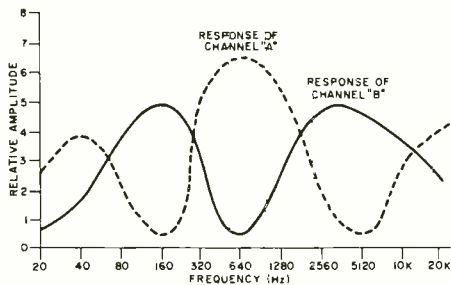

Fig. 2. Frequency response of the synthesis stereo circuit.
*Dual Dimension Sound* was first introduced in RCA's CTC-101 series in 1979, and has seen major improvements for the 1981/1982 line. This pseudo-stereo effect is created by synthesizing audio sound separation into two channels so that one speaker handles midfrequency audio between 60 and 200 Hz and 1.2 and 10 kHz, as shown in Fig. 2. This is done by selective filter separation, with two electrical paths each going to a single-output amplifier.